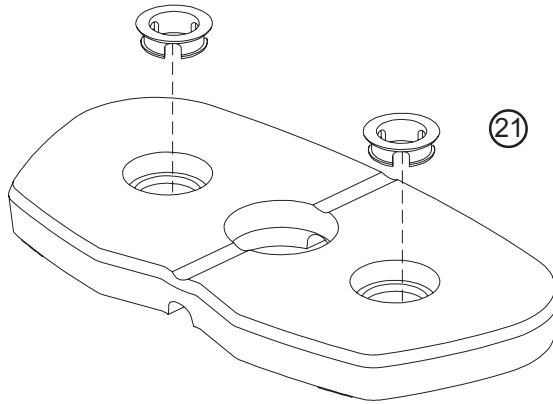
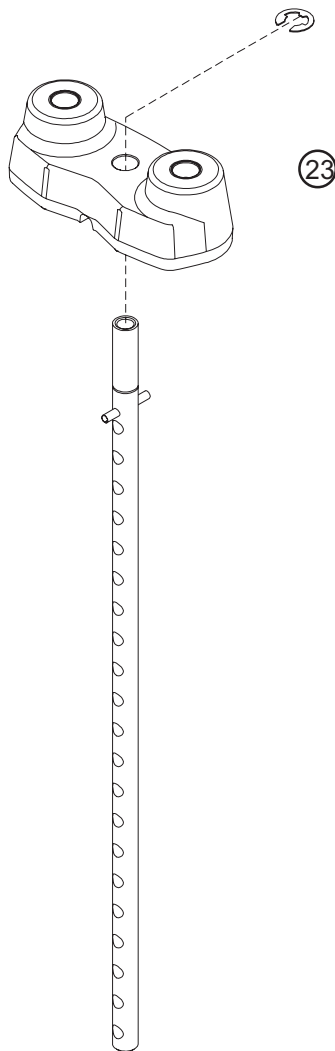

FIGURE 3
FIGURE 4
Make sure that the WEIGHT PLATES (21) are assembled as shown in Figure 3 and the HEAD PLATE ASSEMBLY (23) is assembled as shown in Figure 4.